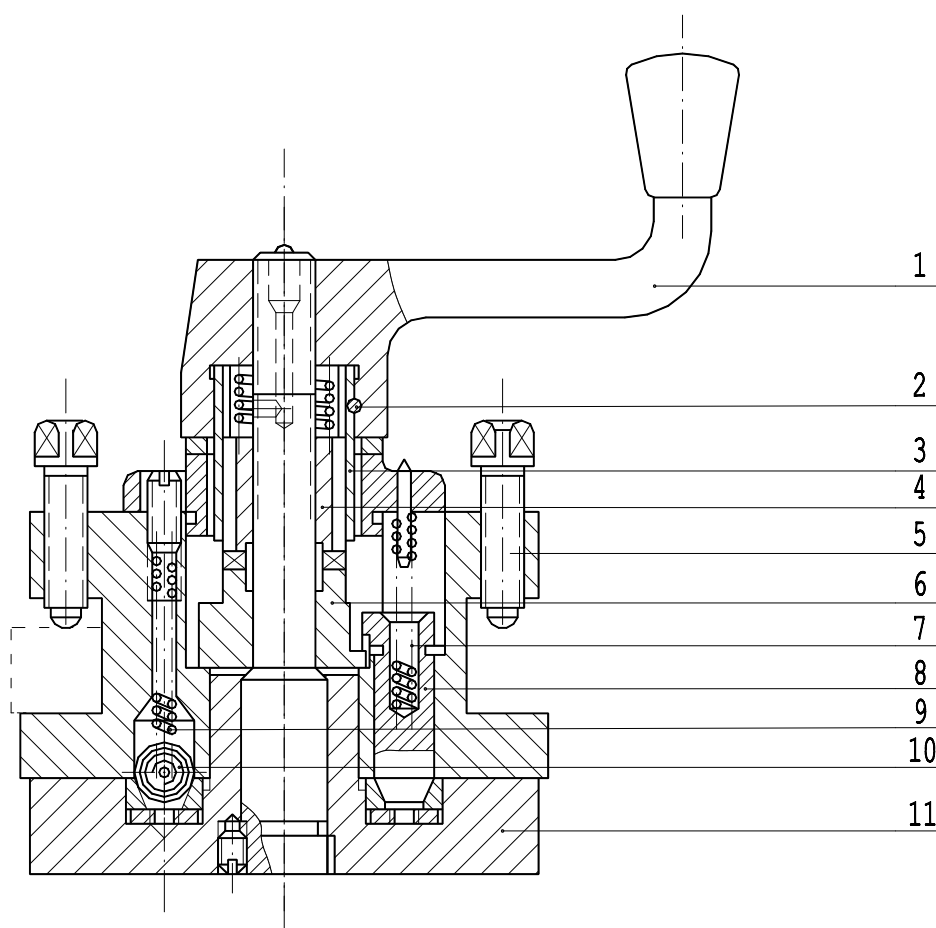

Fig. 15 Structure of square tool post
When counterclockwise turning lever 1 (Fig. 15), locating pin (7) is raised up through the pin (2) to actuate (3), (4), and (5) and continually turning the lever 1, tool post may
Unscrew the locking screws (5) of square tool post (Fig. 15), install the turning tools in the tool slots of the tool post and extension length of the tool end is about 37 mm from the body of tool post, in general case, the extension length from the tool holder is not more than 1~1.5 times of tool thickness. Then, adjust height of the tool tip by means of tool pad to make it keep equipments with the center of workpiece (spindle center line), also adjust it according to the center line of tailstock center), also adjust it according to the center line of tailstock center. After completion of adjusting tool tip height, screw up the screw (5).